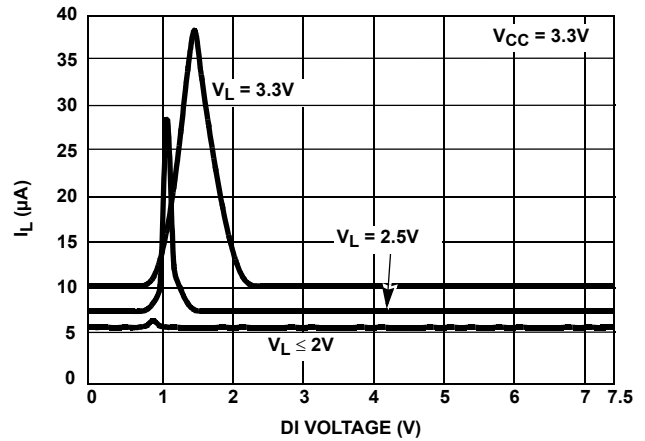

FIGURE 9.  $V_L$  SUPPLY CURRENT vs LOGIC PIN VOLTAGE
The VL supply current (IL) is typically much less than 20μA, as shown in Figure 9, when DE and DI are above/below VIH/VIL.